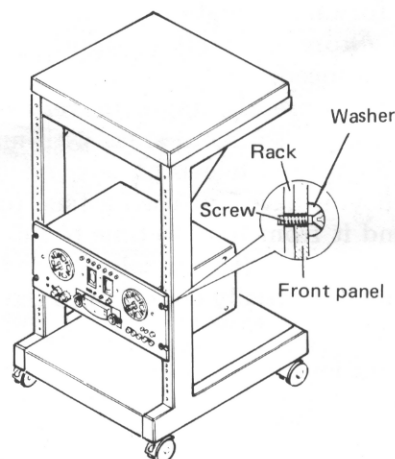

Fig. 25
3. Use the accessory screws to screw the front panel into the rack (see Fig. 25).